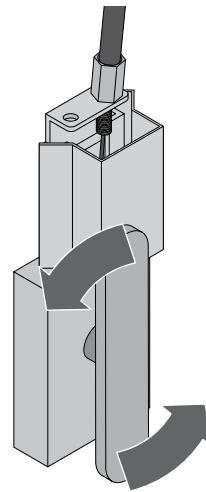

Fig. 2
- **ASB2 external cord release (fig. 2):**